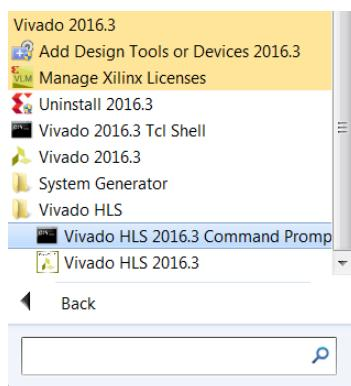

Figure 10-1: Vivado HLS Command Prompt
- On Windows use **Start > All Programs > Xilinx Design Tools > Vivado 2018.3 > Vivado HLS > Vivado HLS 2018.3 Command Prompt** (Figure 10-1).